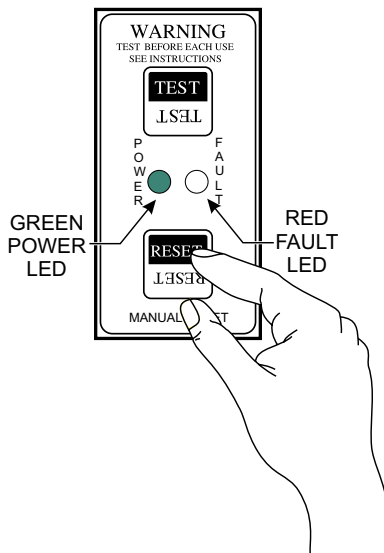

Figure 50. GFCI Module (Green LED ON Reset)
9. To restore power, press the RESET button (Figure 50) on the GFCI module and verify that the **red** FAULT LED turns **OFF** and the green POWER LED should turn **ON**